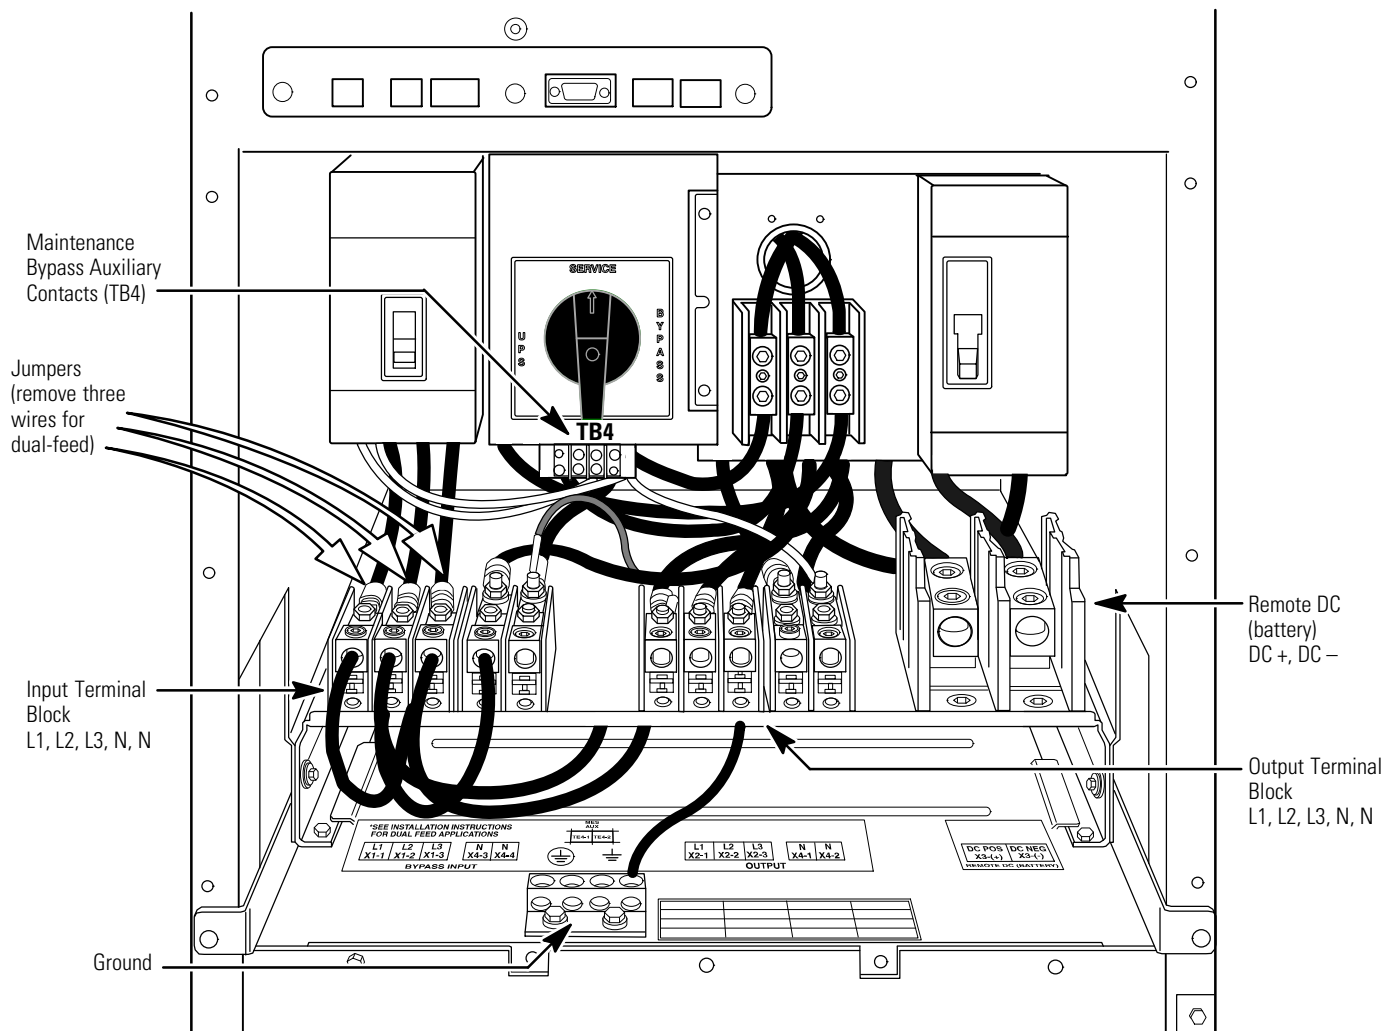

Figure 23. UPS Terminal Block
For a detailed view of the UPS terminal block, see Figure 23 on page 37.
5. Remove the jumpers between the UPS input terminal block and the input circuit breaker (see Figure 23 on page 37).